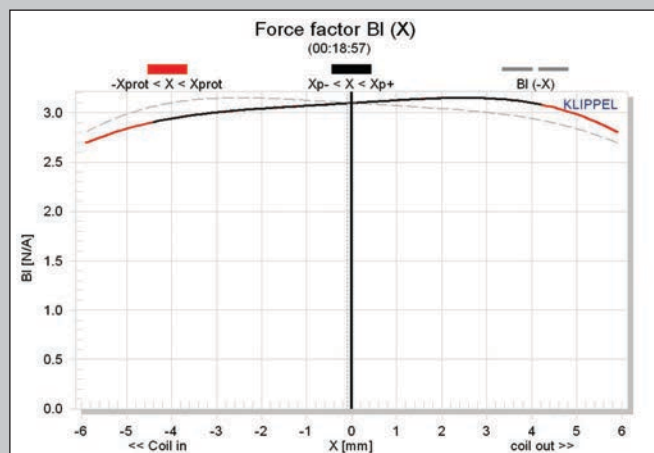
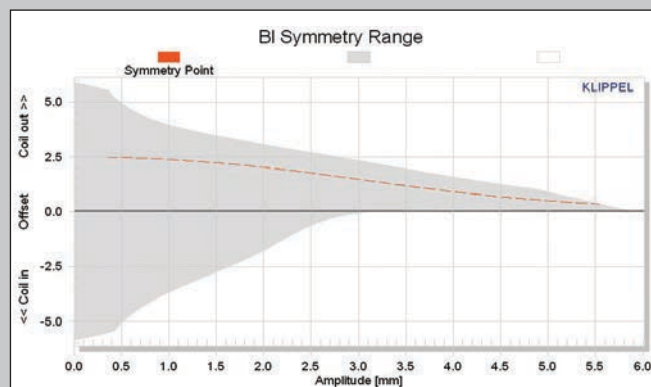

Figure 5: Klippel Analyzer BI (X) curve for the Fountek FR89EX
Figure 6: Klippel Analyzer BI symmetry range curve for the Fountek FR89EX
Klippel analysis for the Fountek 3" full-range (our analyzer is provided courtesy of Klippel GmbH), and testing performed by Pat Turnmire, Red Rock Acoustics (author of the SpeaD and RevSpeaD software) produced the BI(X), Kms(X) and BI and Kms Symmetry Range plots given in **Figures 5** to **8**. The BI(X)
curve for the FR89EX (see **Figure 5**) is relatively broad and with a degree of asymmetry. Looking at the Bl Symmetry plot (see **Figure 6**), this curve shows a 2.5-mm coil-out offset at the rest position that decreases to 0.50 mm at the physical 5.0 mm Xmax of the driver.